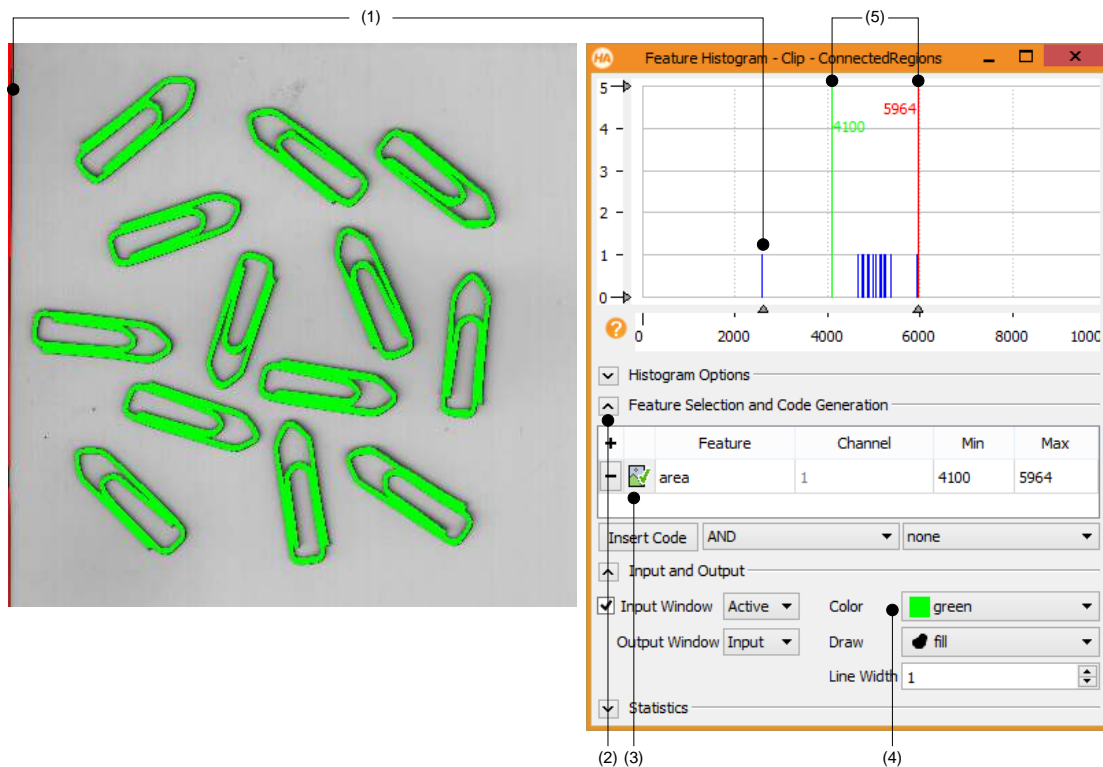

Figure 4.8: Selecting regions with a similar area in the feature histogram.
Inspecting the variable `ConnectedRegions` after the changed threshold operation yields a much better result. Still, a contiguous area at the left edge of the image is returned (1), see figure 4.8. To obtain only the regions that coincide with the clips, we need to further reduce the found regions based on a common criterion. Analogous to the gray histogram tool, which helps to select regions based on common gray values, HDevelop provides a feature histogram tool, which helps to select regions based on common properties or features.